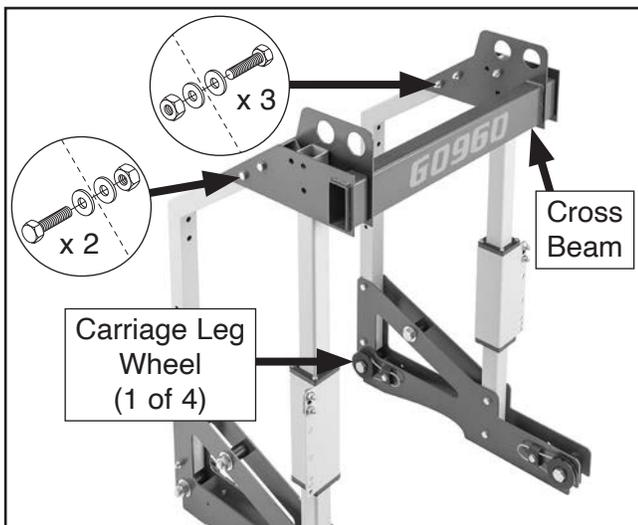

Figure 28. Cross beam attached to posts.
24. Have assistant hold cross beam while you attach it to front and rear posts with (5) M10-1.5 x 80 hex bolts, (10) $\frac{3}{8}$ " flat washers, and (5) M10-1.5 hex nuts (see **Figure 28**). Hand-tighten all fasteners until told otherwise later.
Note: Carriage leg wheels should face each other (see **Figure 28**).